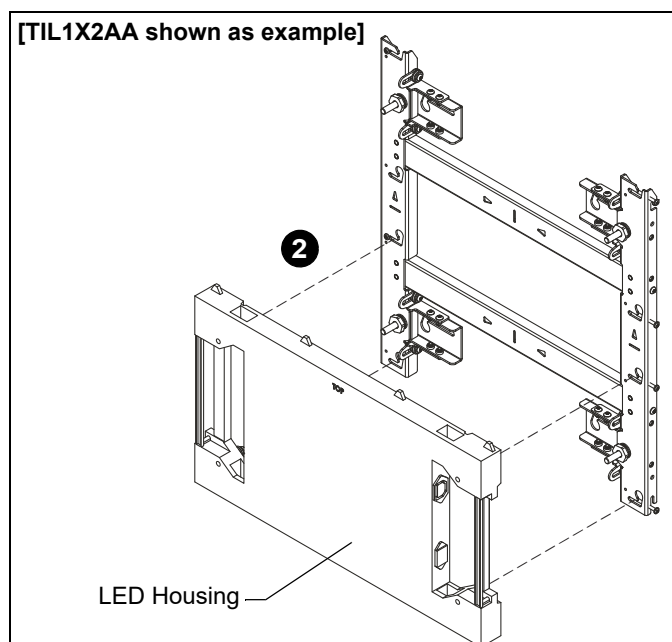

Figure 16
3. Lower housing until contacting the bottom of mounting holes. (See Figure 16)